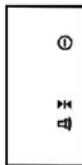

Figure 3
**Note:** The LCD display will still have the power, detection and sound indicators illuminated (Fig. 3).